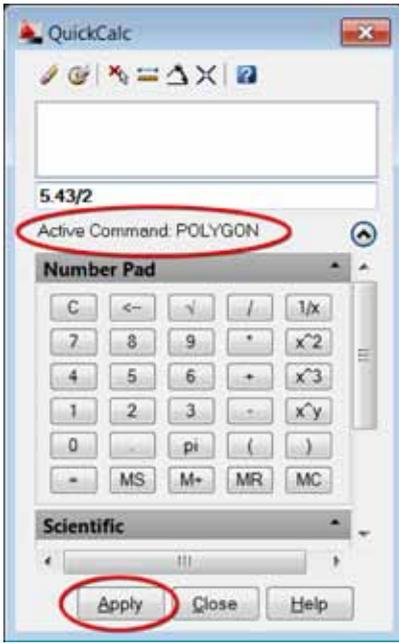

Figure 8: Appearance of Calculator Palette when accessed within a command. Note the “Active Command” designation and Apply button.
4. Enter  $5.43/2$  in the input box. Notice it says "Active Command: POLYGON" beneath the input box (See Figure 8). This means your calculation will be applied to the active command.